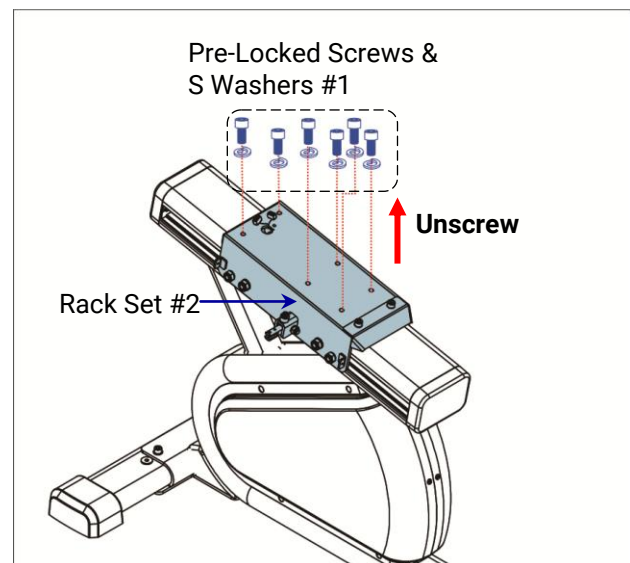

Fig 2.5-9A
- 1) Unscrew the (6) **Pre-Locked Screws & S Washers #1** on the **Rack Set #2**. (Fig 2.5-9A)